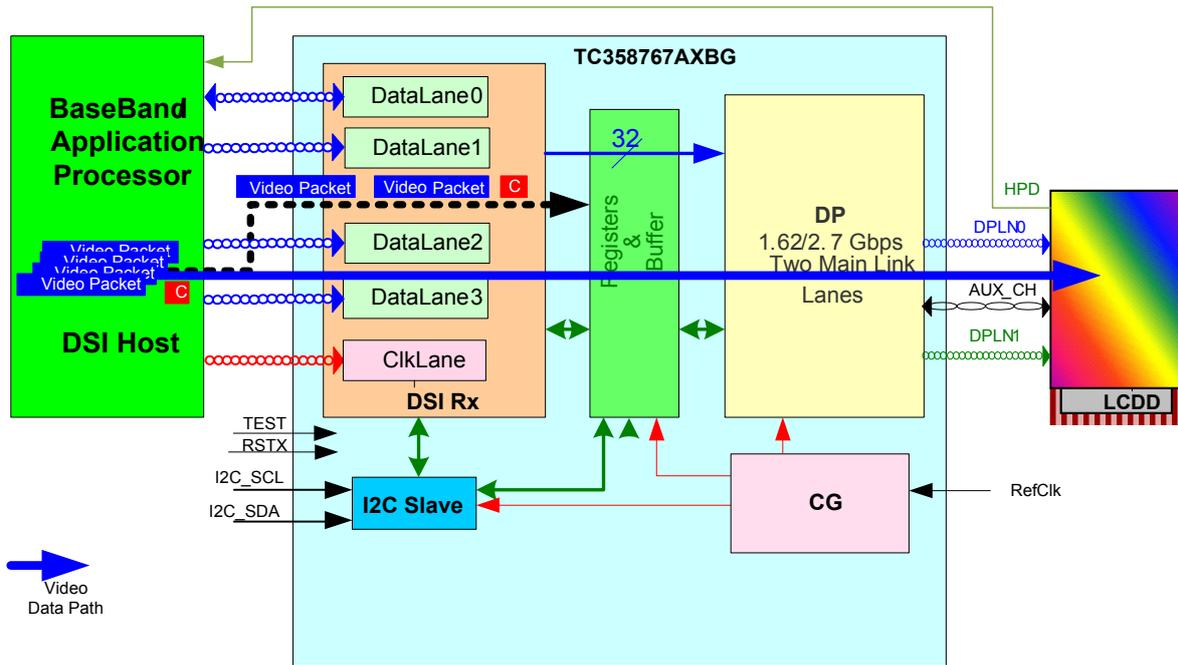

Figure 1.1 System Overview with TC358767AXBG in MODE_S21 Configuration
- Figure 1.1. In this configuration, the TC358767AXBG can support displays with resolution up to WUXGA (1920×1200) at 24bit, 60 fps or WUXGA (1920×1200) at 18bit, 60 fps. Video stream source is from DSI Host.